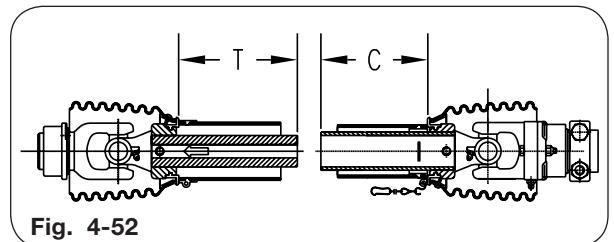

Fig. 4-52
2. Pull apart PTO telescoping shaft ends and measure lengths “T” & “C” (Fig. 4-52)